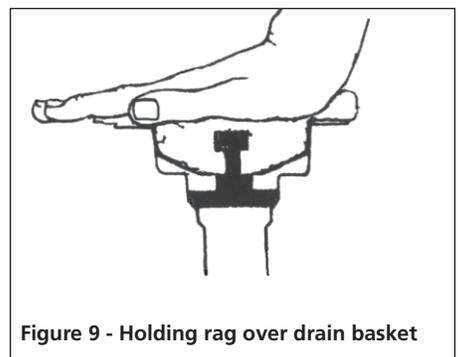

Figure 9 - Holding rag over drain basket
**NOTE:** When plugging off the drain, place the sink basket in position as if you were closing off the drain and hold the wet rag over the top while using the drain cleaner (see Figure 9).